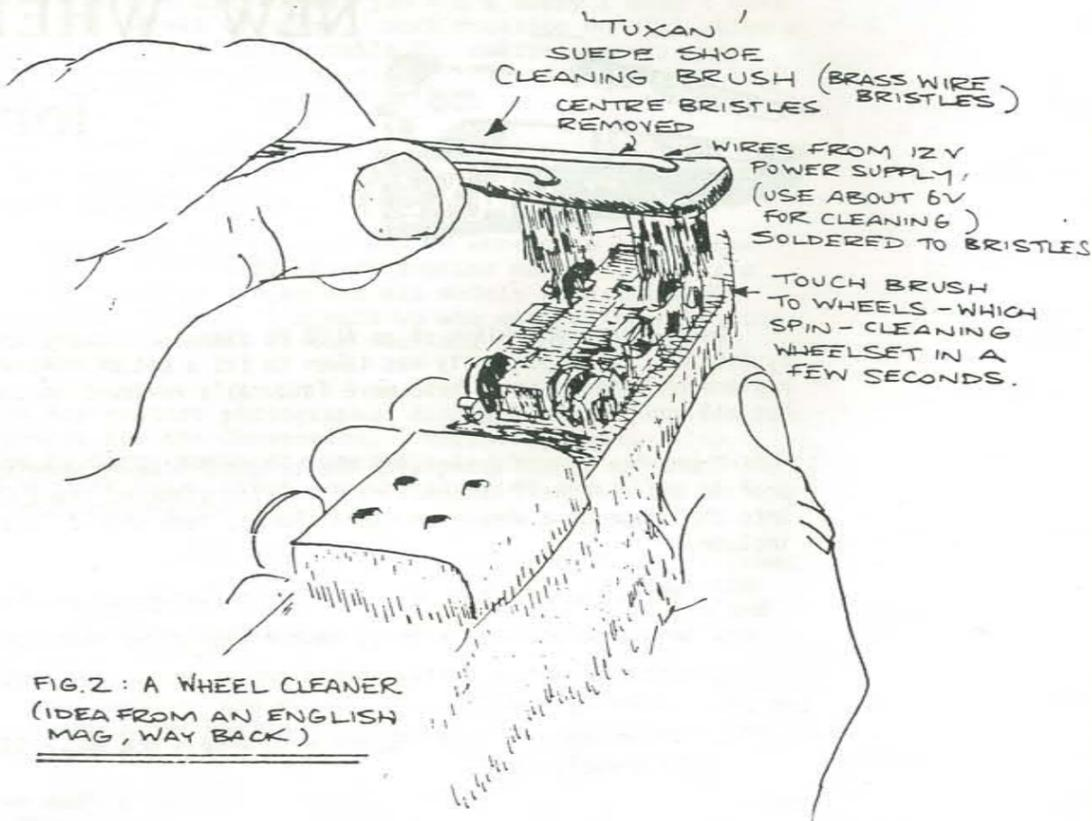

FIG. 2: A WHEEL CLEANER (IDEA FROM AN ENGLISH MAG, WAY BACK)
As good replacements are readily available from Athearn dealers, as the wheels are not hard to clean (See Fig. 2) and as a period of operation imparts a realistic graphite-like sheen to treads, none of these 'failings' are hard to live with. Nevertheless, having bought the NWSL wheelset kit, I determined to use it.
4. Sway bracing essential for narrow/high peninsulas. Placed near the ends of peninsulas, legs allow open space under for storage etc. See fig. 2.